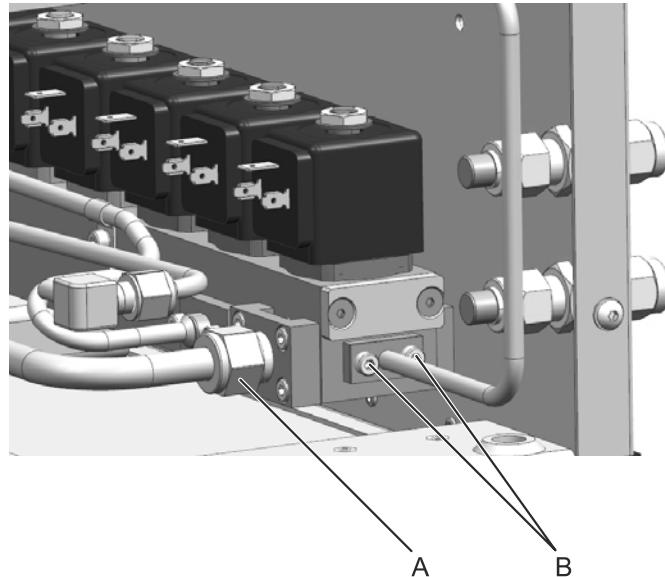

Figure 101: Disconnecting vacuum line from valve block
21. Use the 19 mm wrench to disconnect the vacuum line from the valve block (see Figure 101, A).
23. Use the 3 mm Allen key to disconnect the overpressure relief line (see Figure 101, B).
33. Use the 3 mm Allen key to reconnect the overpressure relief line (see Figure 101).